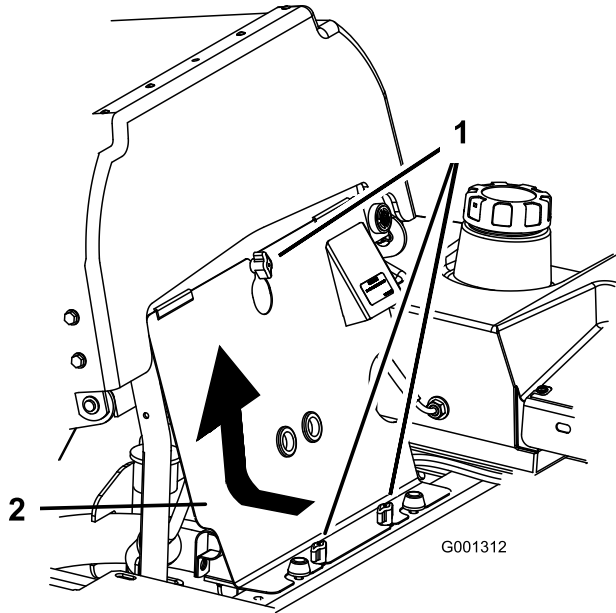

Figure 61
1. Tilt the seat forward and remove the front engine panel (Figure 61).